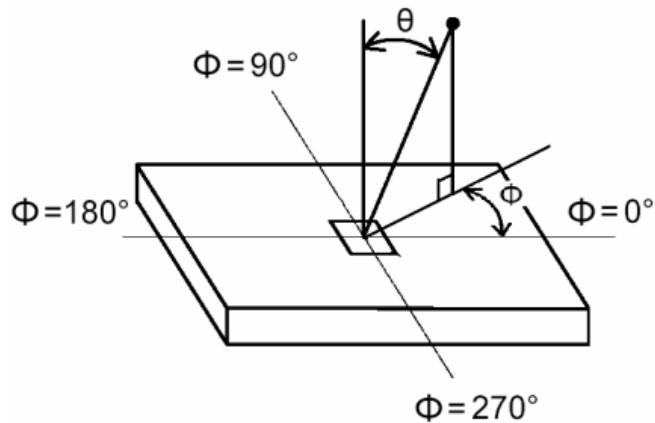

Fig.4-5 Viewing angle definition
6. Viewing angle is the angle at which the contrast ratio is greater than 10. The angles are determined for the horizontal (or x-axis) and the vertical (or y-axis) with respect to the z-axis which is normal to the LCD surface. For more information see Fig. 4-5.